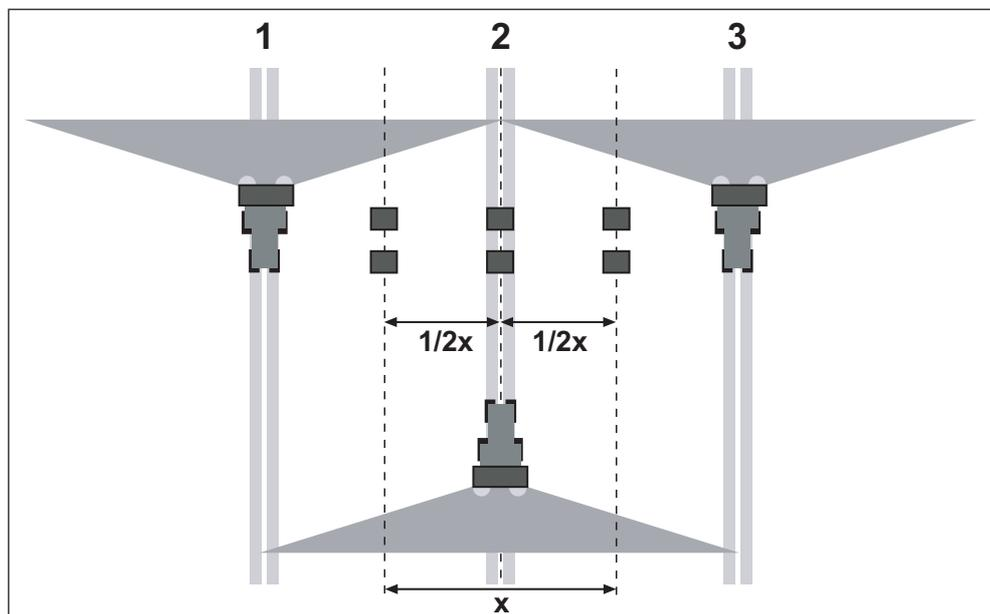

Figure 8.27: Layout for three passes
- Place two catch trays each, one after another, at a distance of **1 m** in the overlap zones and in the centre track (according to figure 8.27).